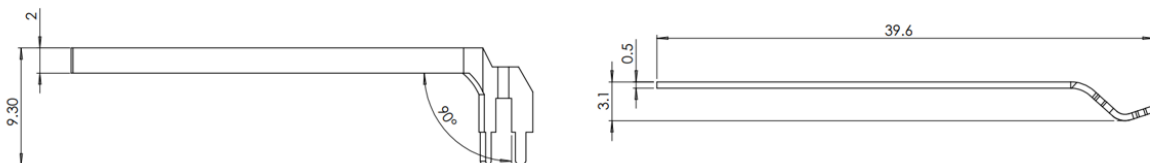

Figure 2: Visuals of the antenna with dimensions (mm)
| FIGURE 2: VISUALS OF THE ANTENNA WITH DIMENSIONS (MM) | 5 |